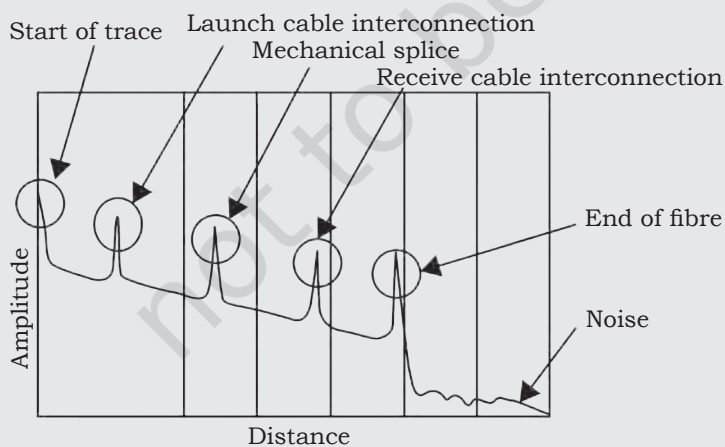

Fig. 6.9: Study of the trace of OTDR
Step 2: OTDR creates a trace like the one shown in Fig. 6.9. The trace shows event loss, event reflectance, and optical fibre attenuation rate. The OTDR can horizontally and vertically zoom in on any section of the trace. This permits a more detailed inspection of the optical fibre or event.